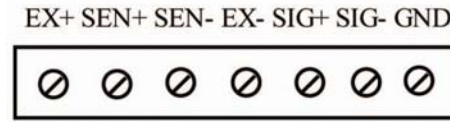

Figure 3-4 Load Cell Interface
The connection with load cell adopts the six wire system connection mode. Please refer to the interfaces in the Diagram of Back Function Buttons, Figure 3-4. Detailed definitions are given below:
**Tips: If the long line compensation function (four wire system connection mode) is not used, the pins of “EX+” and “SEN+”, “SEN-” and “EX-” in Figure 3-4 must be short-connected, or otherwise, the indicator can not be calibrated and weigh normally.**